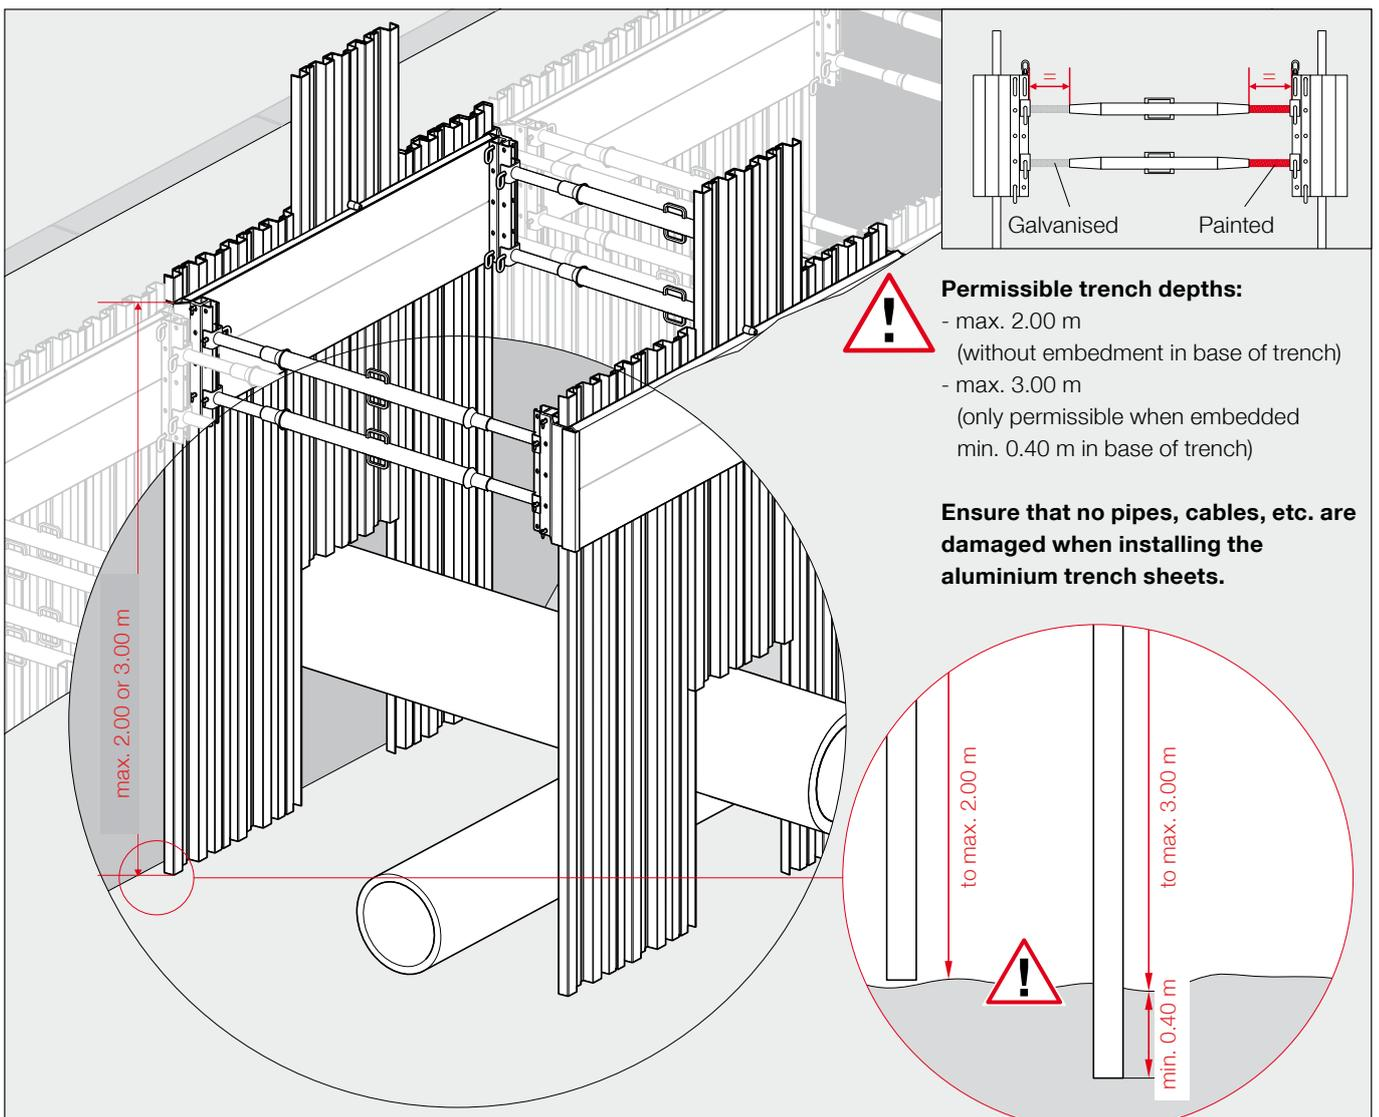

Fig. 2
- Both screw threads of every trench strut must be extended by the same amount (Fig. 2).
- Ensure that all the galvanised screw threads of the trench struts are on one side of the trench and all the painted screw threads on the other side (Fig. 2).